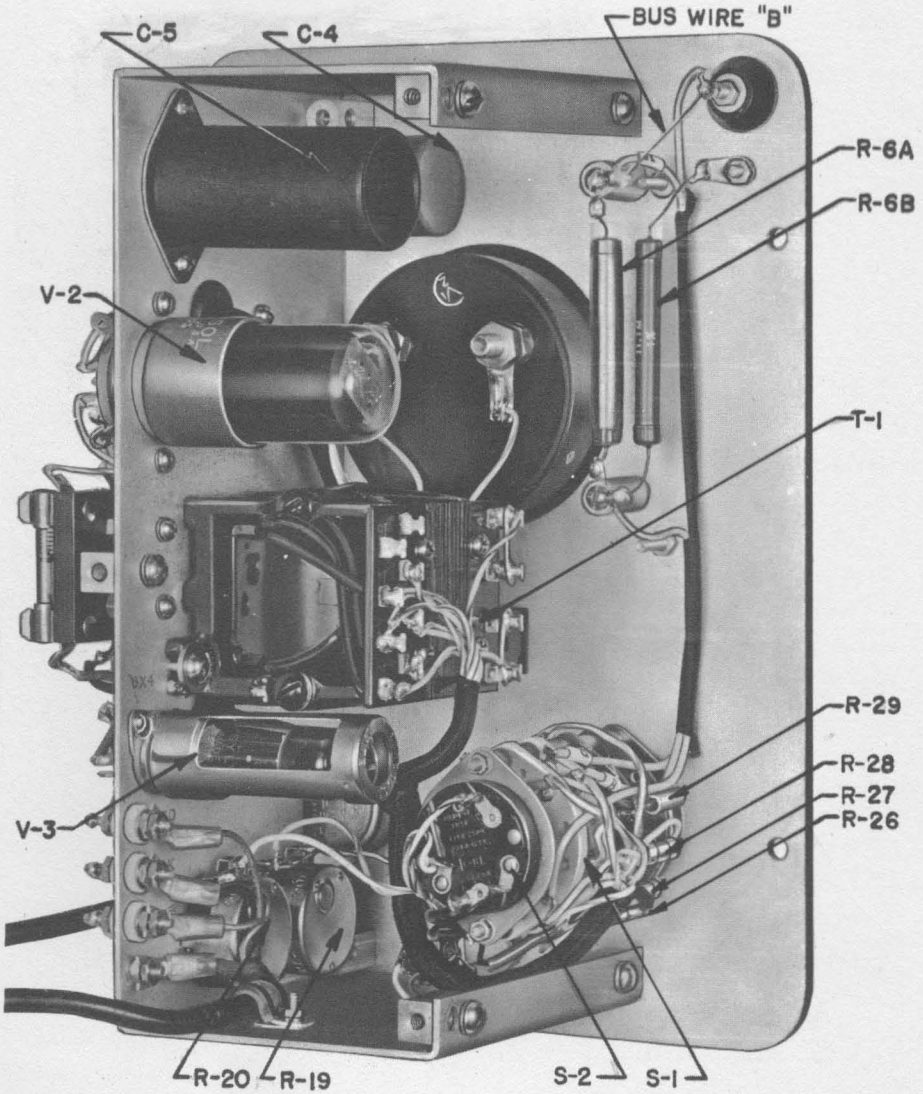

Figure 6. Rear Interior View of the Type 1803-B Vacuum-Tube Voltmeter.
2.3.4 INPUT RESISTANCE. The input resistance at the d-c terminals is normally 111 megohms. When it is essential to have an input resistance higher than 111 megohms, the input can be applied directly through the ripple filter to the grid of the d-c amplifier tube for the first four ranges (1.5, 5, 15, and 50 volts full-scale). To do this, unsolder the bus wire (B, Figure 6) from the high input terminal. The regular input terminals are still used, but the effective input resistance is determined only by the insulation resistance of the input circuit. With this connection, the entire grid current of the amplifier tube (about 1.5×10^{-9} amperes) flows through the voltage source. For the 150- and 500-volt ranges, the input resistance remains at 111 megohms.